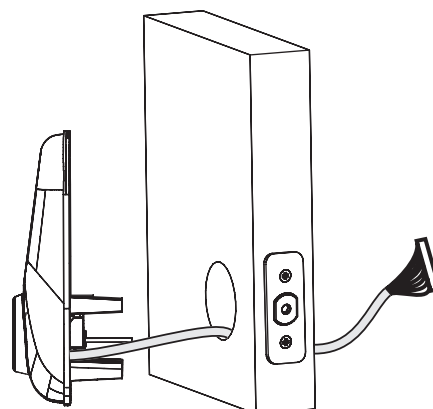

Figure 3A
- a. Ensure that gasket on inside mounting plate is properly fitted. Note the positioning of the gasket's five rubber nubs (Figure 3A) .
As you position the outside escutcheon, route the cable through 2-1/8" diameter hole (Figure 3A).